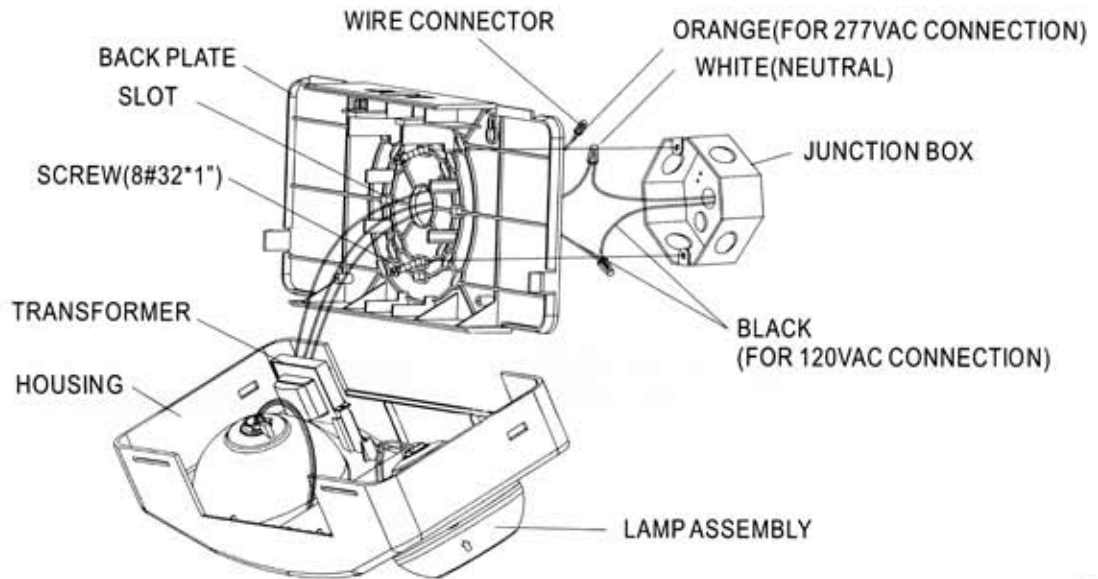

Fig.2
3. Remove the knock out hole on center and knock out slot on the back plate that corresponds to junction box holes to used. (see Fig.2)